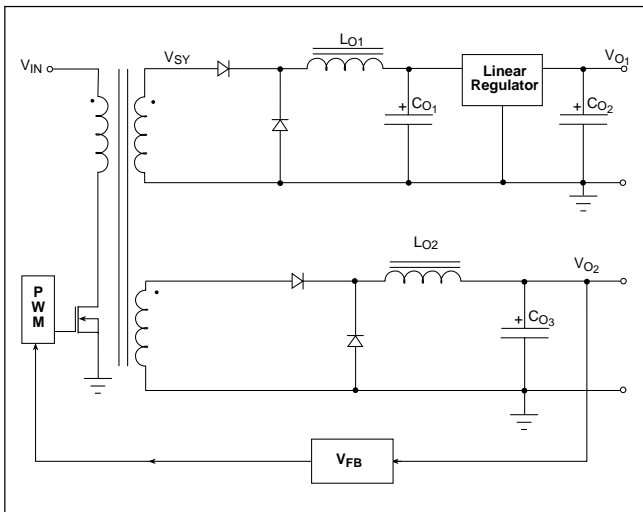

Figure 1. Linear Regulator
1. The Linear Regulator, Figure 1, is the simplest and the most popular for low current (3A) applications. The major disadvantage of the linear regulator is its poor efficiency.